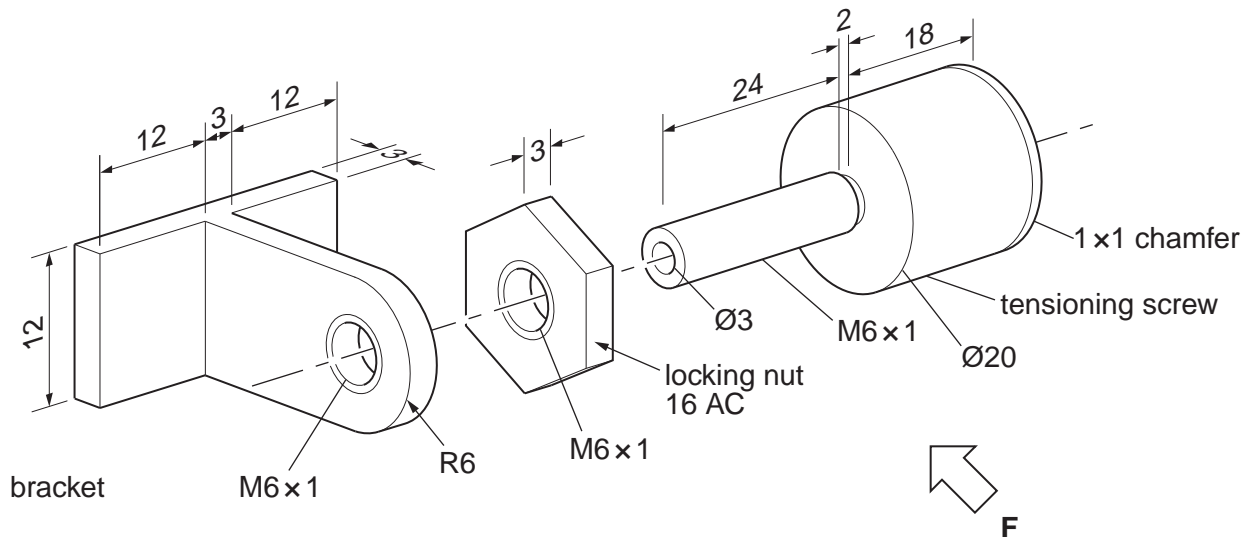

Fig. 7
- 8 Fig. 7 shows a cable tensioning device.